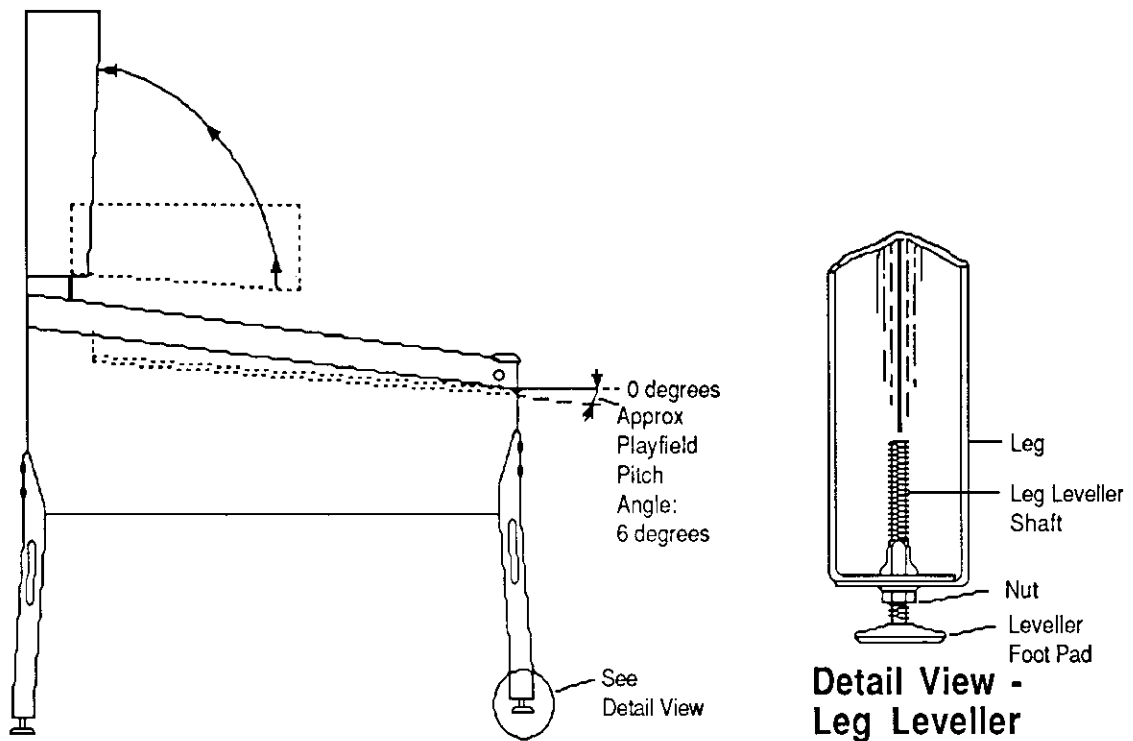

Figure 3. Pinball Assembly, Playfield Pitch Angle, and Leg Leveller Details.
3. Attach the front legs (after installing leg levellers), using leg bolts. See Figure 3 for details.
- Adjust the leg levellers for proper playfield level (side-to-side) and playfield pitch angle (incline) of approximately 6 degrees. (Again, it is recommended that these measurements be made ON the playfield, not the cabinet nor the playfield cover glass.) Tighten the nut on each leg leveller shaft to maintain this setting, as shown in Figure 3.